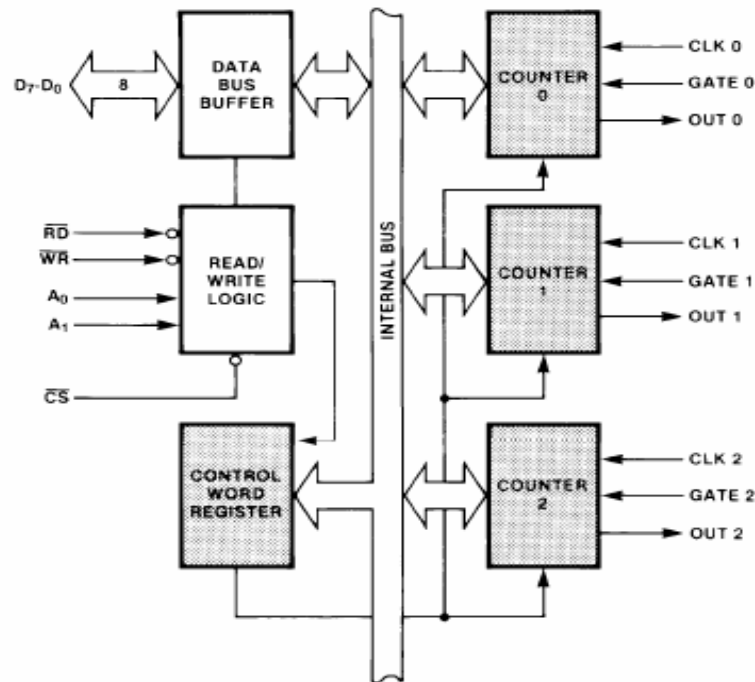

Figure 4. Block Diagram Showing Control Word Register and Counter Functions
- **CONTROL WORD REGISTER :** The Control Word Register (see Figure 4) is selected by the Read/Write Logic when $A_1, A_0 = 11$. If the CPU then does a write operation to the 8254, the data is stored in the Control Word Register and is interpreted as a Control Word used to define the operation of the Counters.